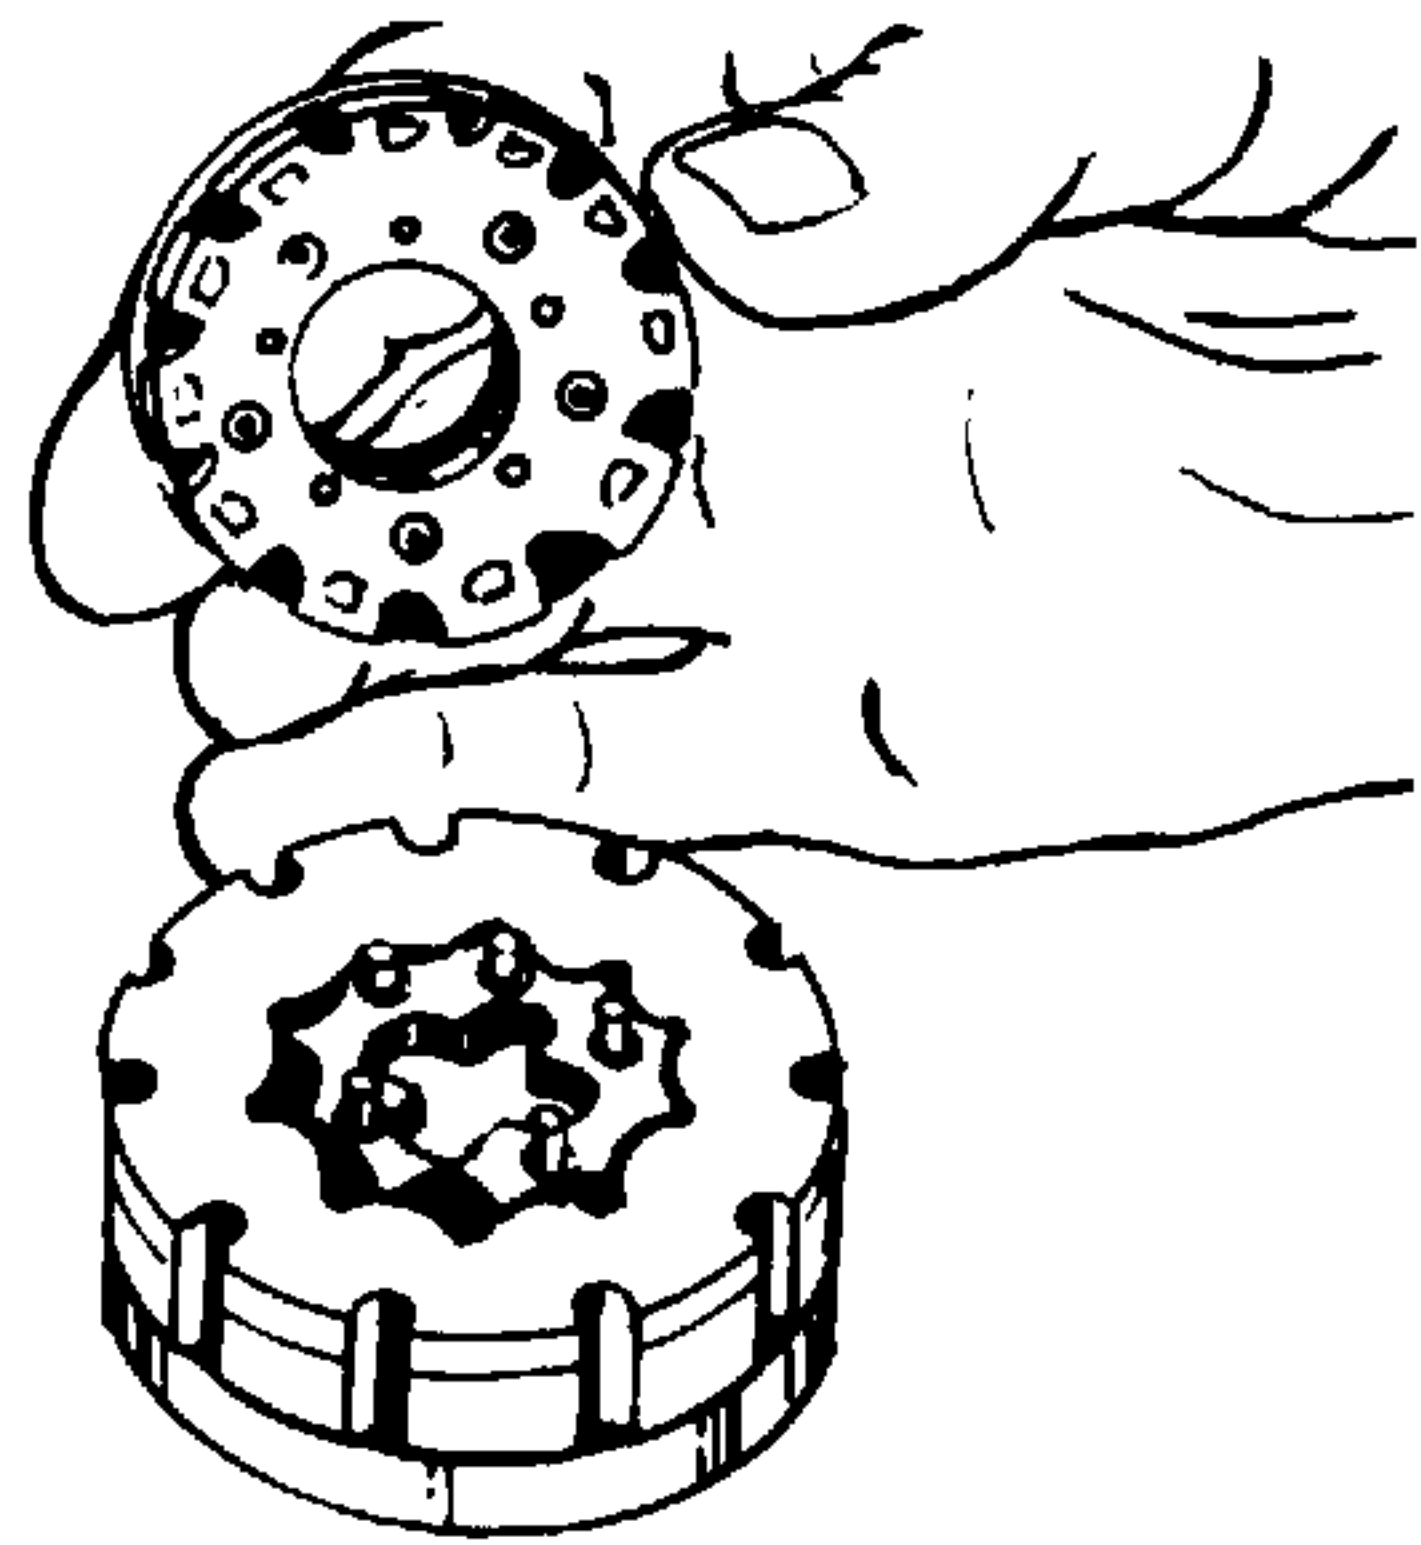

Figure 4-27. Removing Commutator.
30. Remove the commutator (19, Figure 4-1) from the rotor (22). See Figure 4-27.